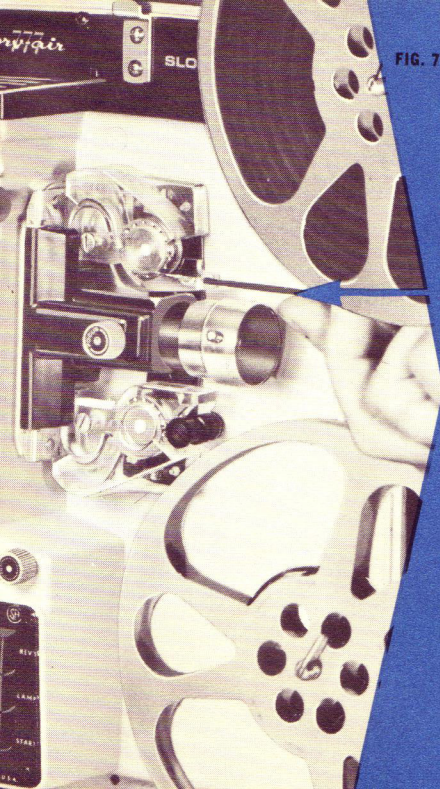

FIG. 7
7. Feed the leader end of the film into the film channel. (fig. 7) Film will thread itself completely, loop setters will open automatically and film will attach itself to the take-up reel.